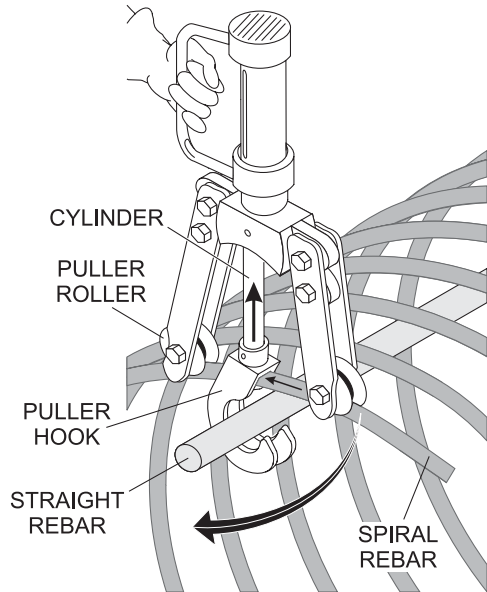

Figure 15. JB5135 Rebar Placement — Rebar Bending
NOTE The cylinder on the JB5135 and JB7135 models retract when the control valve lever is in the forward position and extend when the lever is in the reverse position. See Figure 15.
2. Send the end of the spiral rebar through the gap in the puller hook. Secure the puller hook around the straight rebar and align the puller rollers on the spiral rebar (Figure 15).